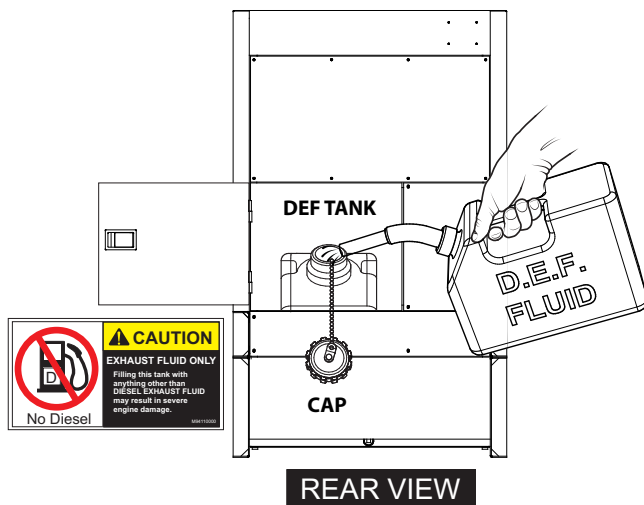

Figure 43. Filling The DEF Tank
2. Remove the **filler cap** from the DEF tank (Figure 43).